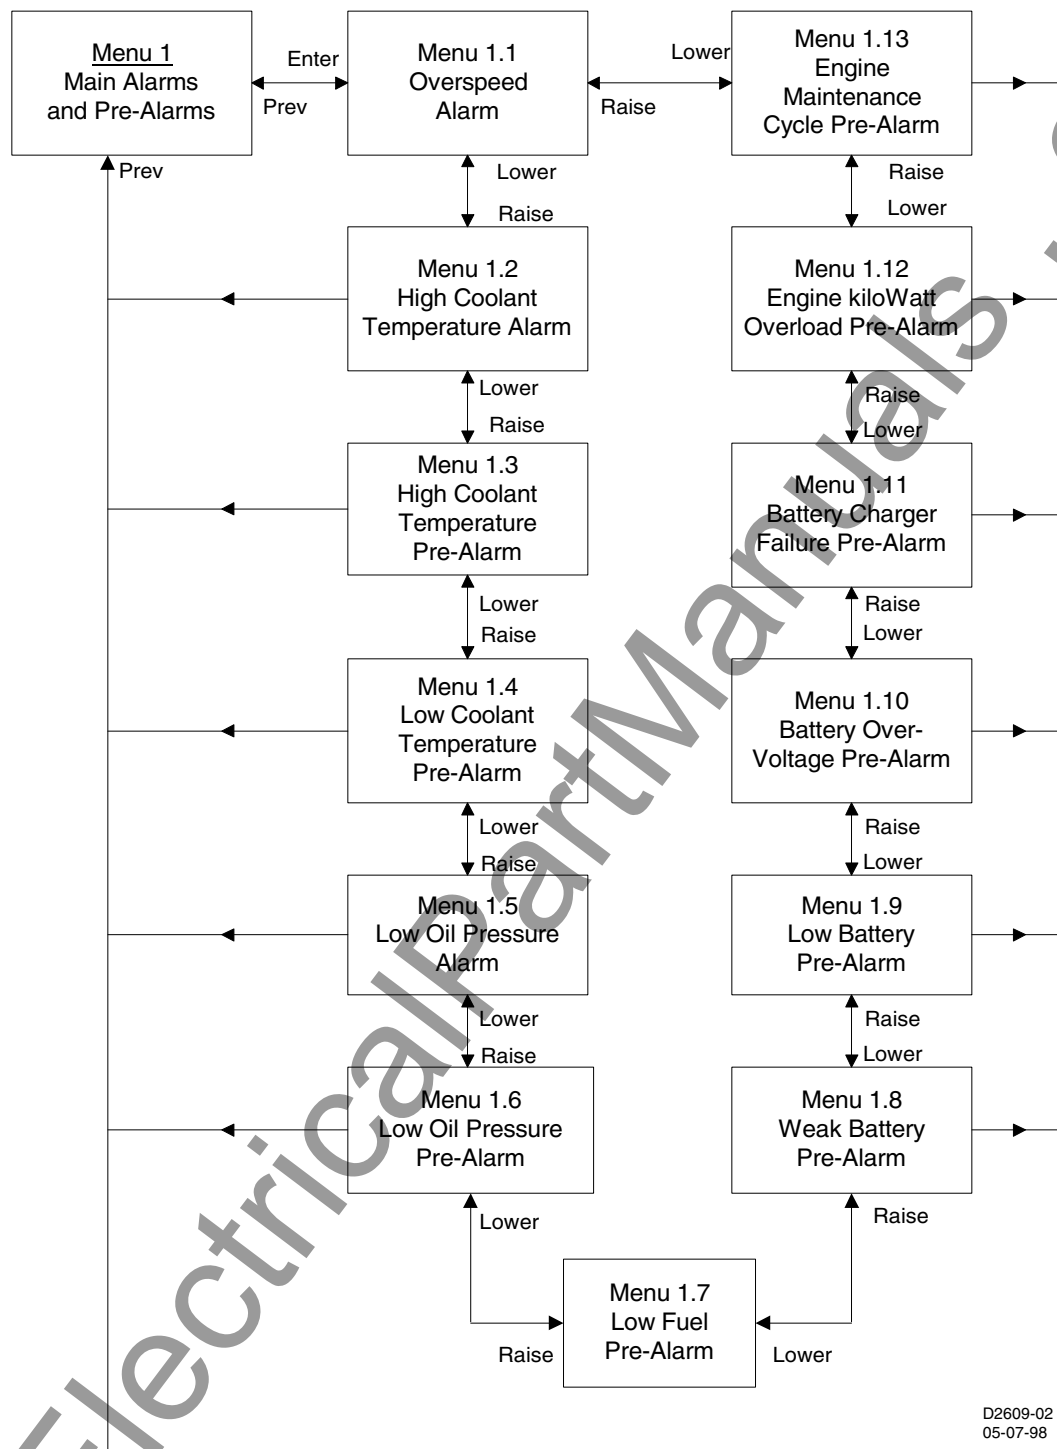

Figure 3-4. Menu 1
**Menu 1.** Menu 1 is the alarm and pre-alarm menu. Pressing **Select/Enter** (Figure 3-4) from this menu begins the 1.x menu level. Pressing **Raise/Scroll** and **Lower/Scroll** from this menu scrolls through the 1.x menu level.